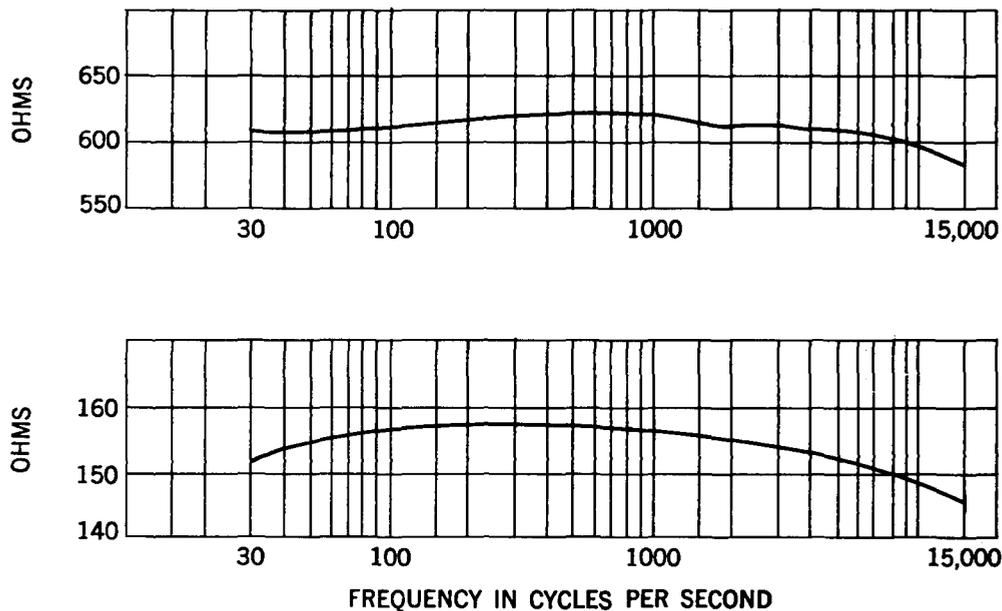

Fig. 5 - Input Impedance vs Frequency
5.01 Fig. 5 shows the typical input impedance of the amplifier with frequency for a 600- or 150-ohm connection.